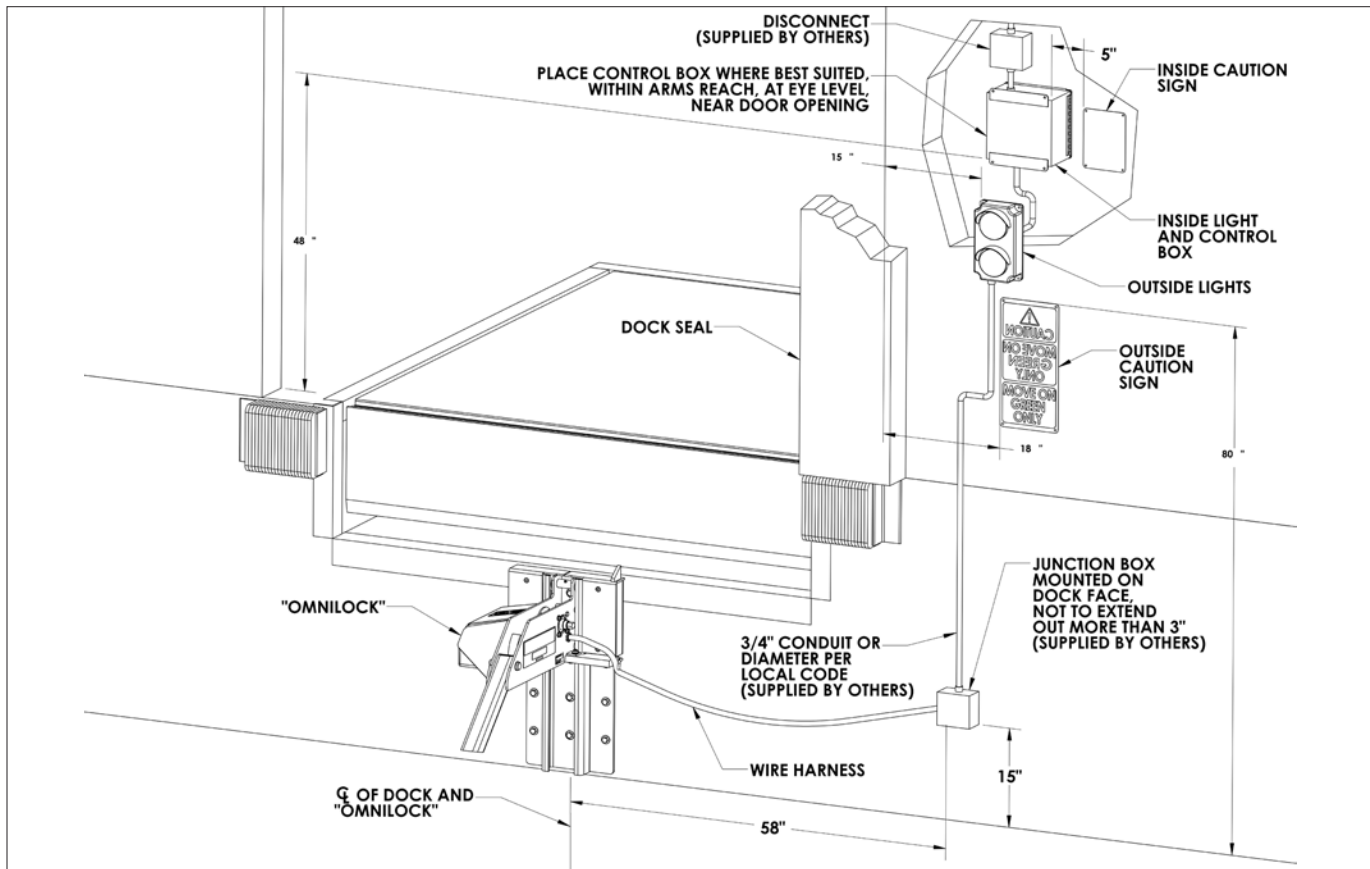

FIGURE 1.B—SUGGESTED COMPONENT LOCATION
There is one (1) driver outside caution sign and one (1) operator inside caution signed supplied with each NOVA OmniLock™ vehicle restraint. (Mounting hardware supplied by others.) Mount outside sign as shown in Figure 1.B. Mount the inside sign next to the control box. Attach placard to control box with zip tie supplied or mount next to the control box. Install all signs provided.